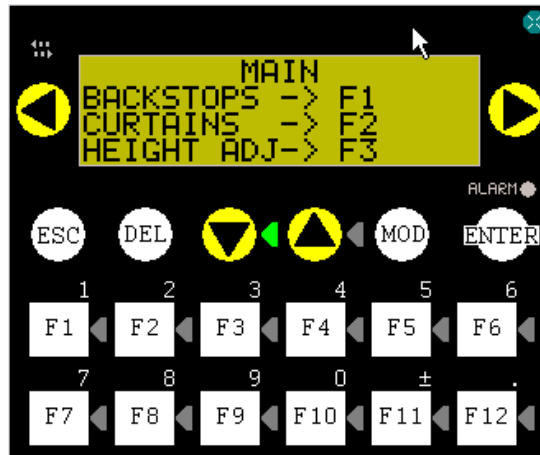

Figure 1
2. If the correct code was entered, the backlight will turn on and bring you to the main page. See Figure 1